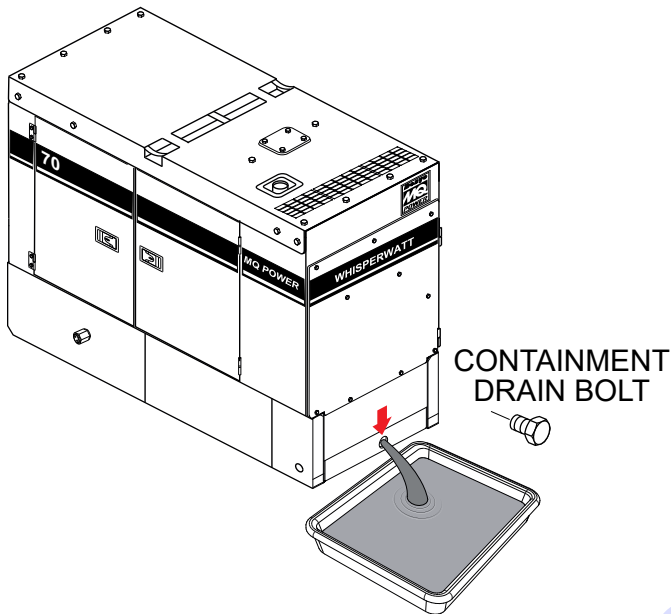

Figure 86. Draining Containment Tank
2. If the tank becomes full with fluids, remove the drain bolt (Figure 86), then allow the fluids to drain into a suitable container.